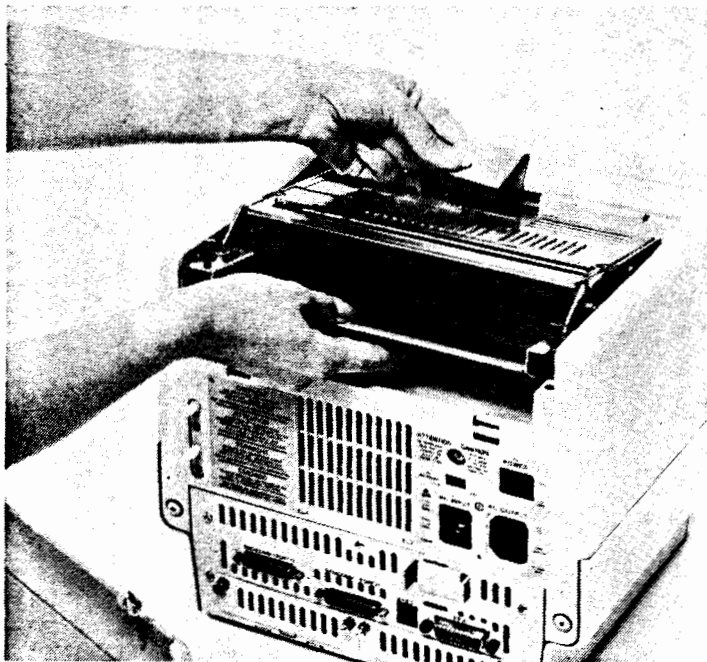

Figure 4-6. Installing the HP 2674
4. Tilt the printer downward and slide it forward into the printer compartment in the HP 150 (see figure 4-6).